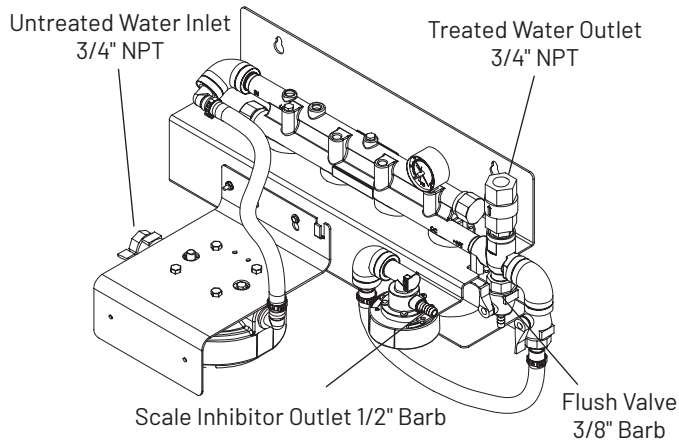

Figure 2
7. Mount the manifold using four (4) screws in the bracket mounting holes.
8. Connect the treated water outlet port to the equipment being served (Figure 2).
9. Connect the untreated water to the inlet fitting on the pretreatment head (Figure 2).
10. Attach 3/8" I.D. tubing to the flush valve fitting (Figure 2). Run the other end of the tubing to a drain.
12. Turn off the flow valves for the inlet, flush and scale inhibitor cartridge (2SR-BW) (Figure 2).